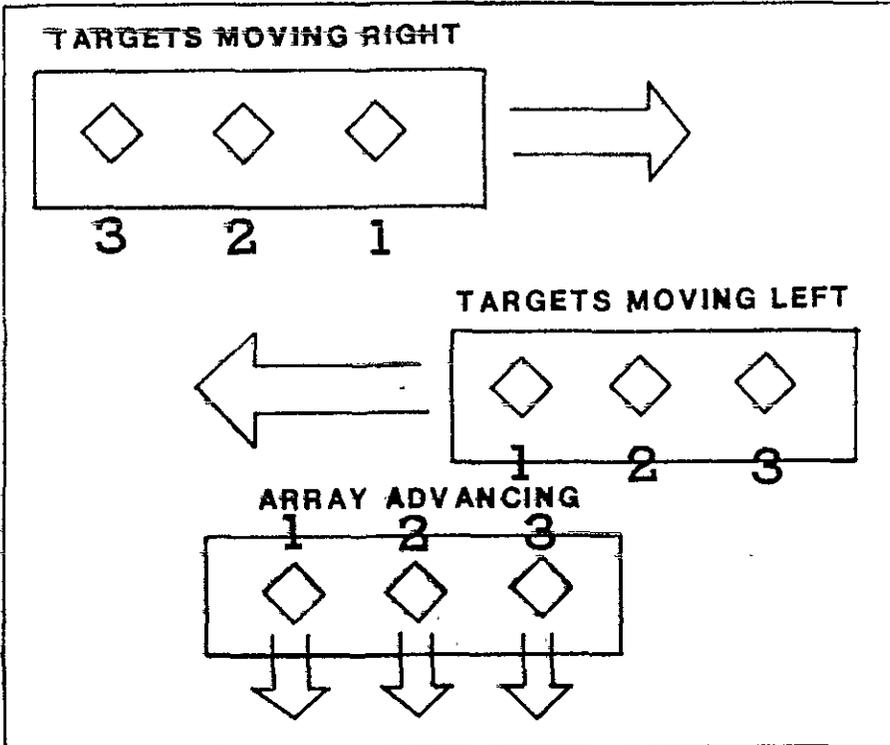

Figure 1. Counting targets.
1) If the opposing force (OPFOR) unit is advancing on line, then the targets are counted from left to right (Figure 1). This